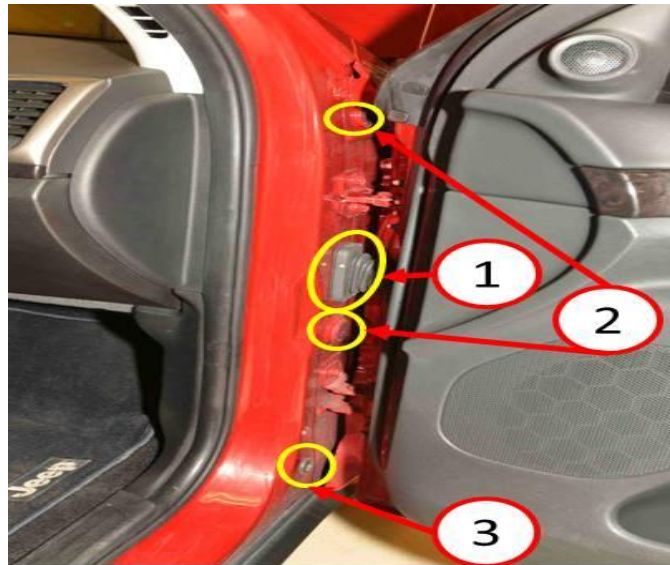

Fig. 1 Inspect A-Pillar Body Side Grommets
1. Check plugs and grommets in body side at door hinge area for proper installation by pushing down around perimeter of grommet to ensure they are fully seated (Fig. 1).